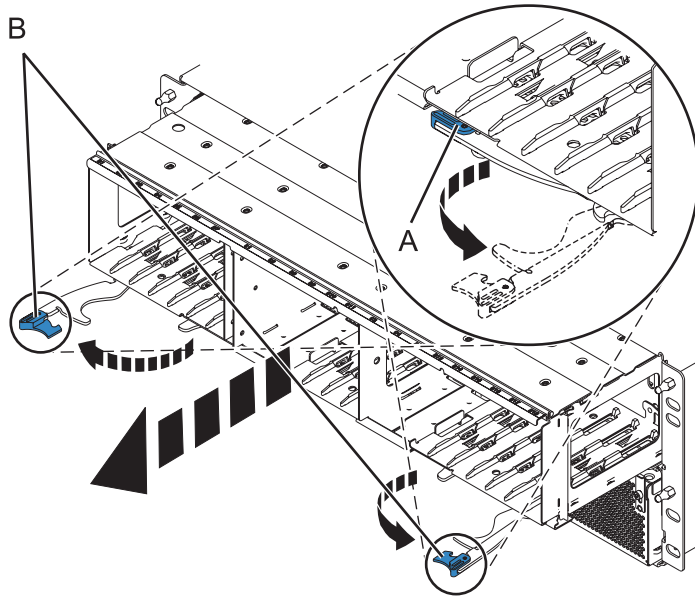

Figure 83. Removing the backplane from the enclosure
6. Remove the backplane as shown in Figure 83 on page 112.